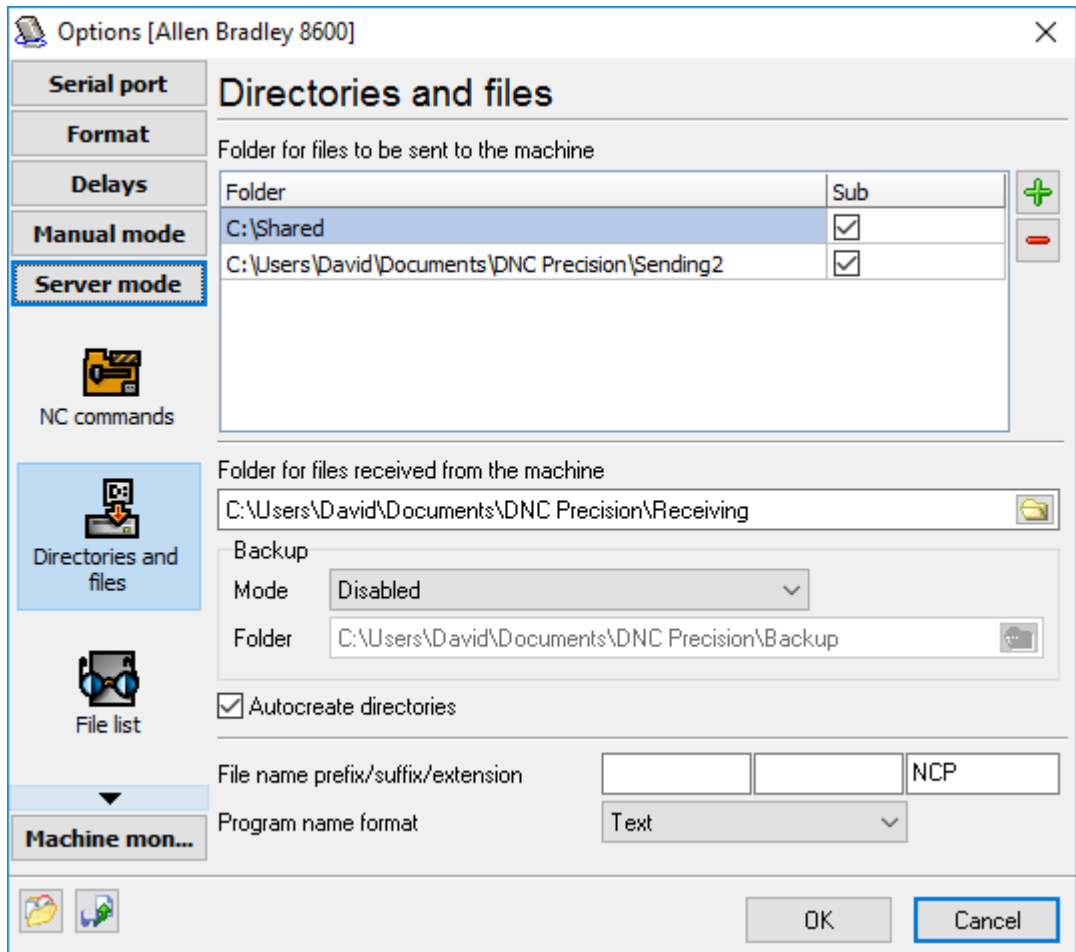

Fig.2 Directories and files
- **Send a file** – once the DNC server receives this command, it will queue the file the name of which was transmitted in the command body for sending. The final filename is generated from the prefix, the suffix and the extension specified on the "Folders and files" tab (fig.2).
- **File list** – once the DNC server receives this command, it will queue the contents of the folder (or folders) specified on the "Directories and files" tab (fig.2) in the "**Folder for files to be sent to the machine**" list for sending.
You may define multiple folders with subfolders to search a program requested. DNC Precision will send first found file that match your file name prefix, suffix and extension (see fig.2). If your folders contains files with different extension you may define all your extensions in the "Extension" field. In this case all extensions are semicolon delimited. For example, if your folders contain files like *.nc, *.ncp, *.iso, then you may define the extension string like "nc;ncp;iso" (w/o quotes). In this case the program will use all these extension for search.